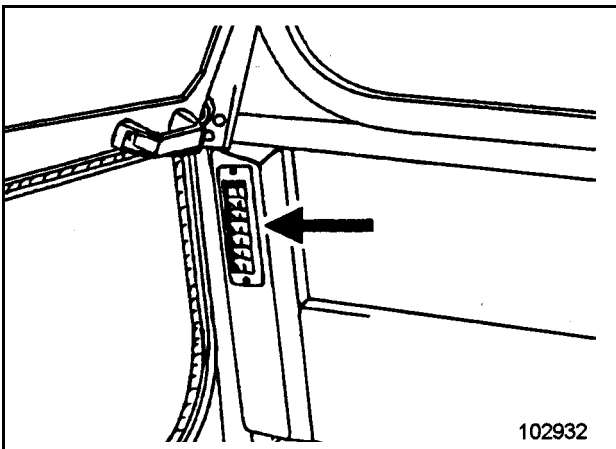

Fig. 4
- Open the outlets (Fig. 4) completely and turn them in the direction of the front window.